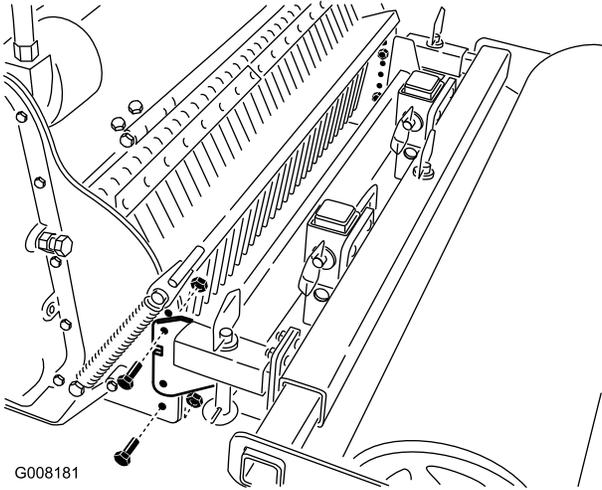

Figure 6
2. Remove the bolts securing the arms to the cultivator (Figure 6).
3. Move the arms to the set of holes corresponding to the desired depth (Figure 6).